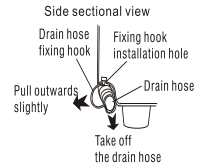

Figure 2
- Take off the drain hose from the hanging hole of the cabinet. Pull the drain hose fixing hook outwards gently to take out the drain hose from the two fixing hooks. (As per Figure 2)